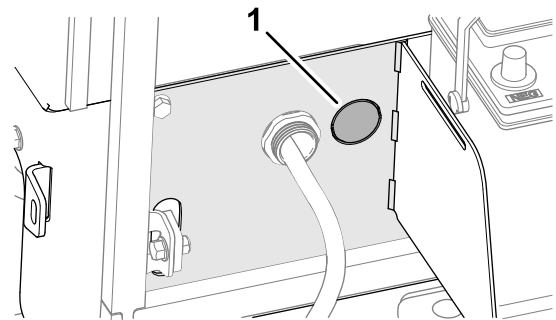

Figure 8
1. At the left side of the battery tray, remove the knock-out plug from the radiator bracket (Figure 8).